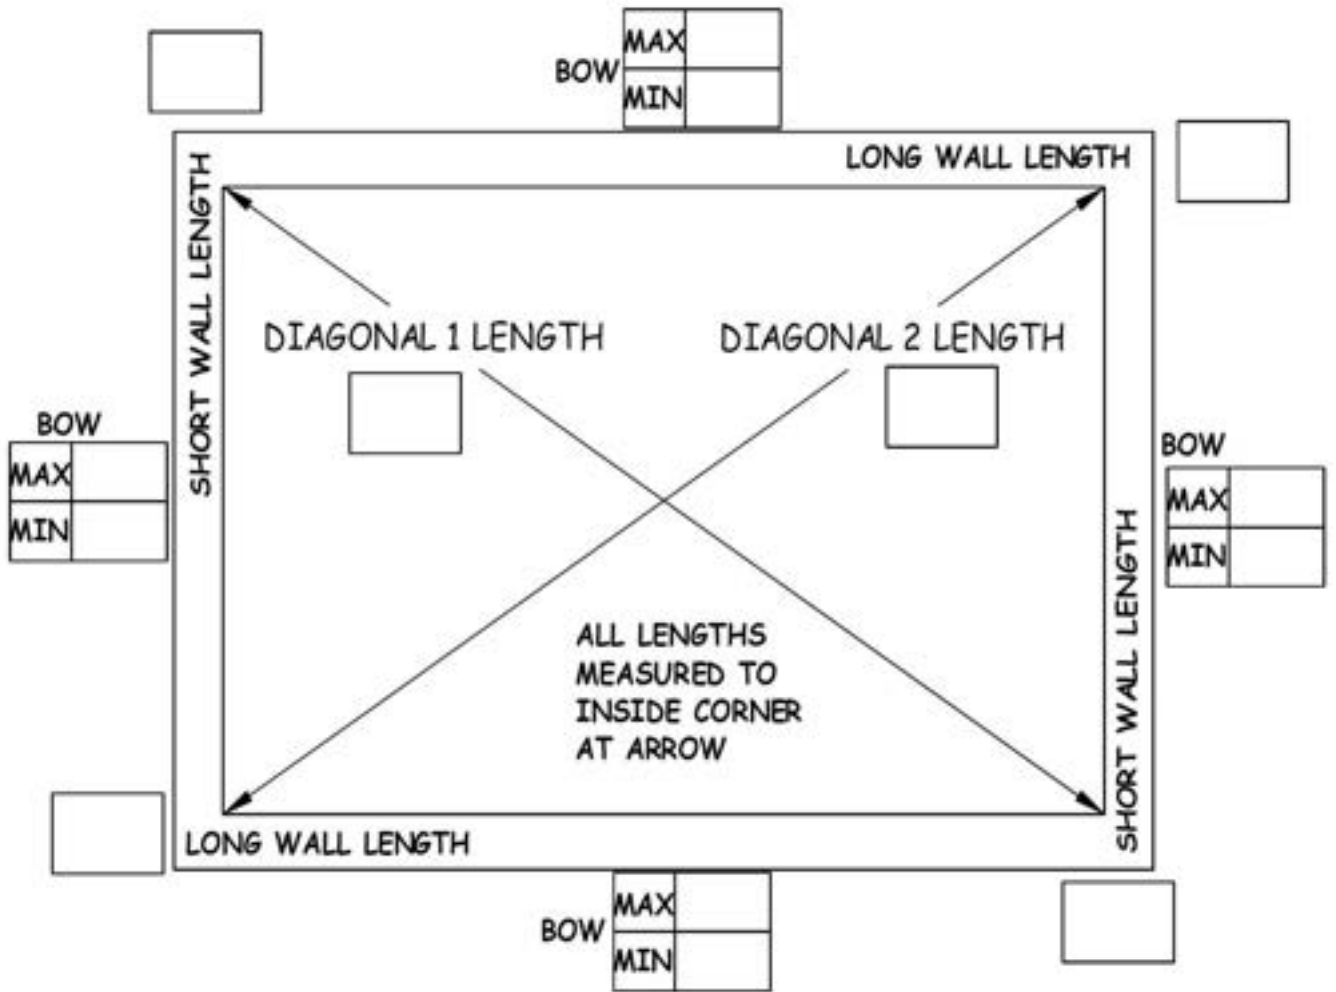

Figure 3-1. Wall Layout for Rectangular Deck Worksheet.
2. **Create a Rectangle.** Remove the Wall Layout for Rectangular Deck Worksheet (Figure 3-1 on the next page) from this manual. With a long steel tape, "burn a foot" and measure the lengths between the initial corner marks from Step 1 above of the opposite walls at each end (see Figure 3-1). Record the measurements on the Wall Layout Worksheet. If opposite wall lengths differ by ½" OR MORE, adjust the corner marks to equalize the lengths by adding one-half the difference at each end of the shorter wall.